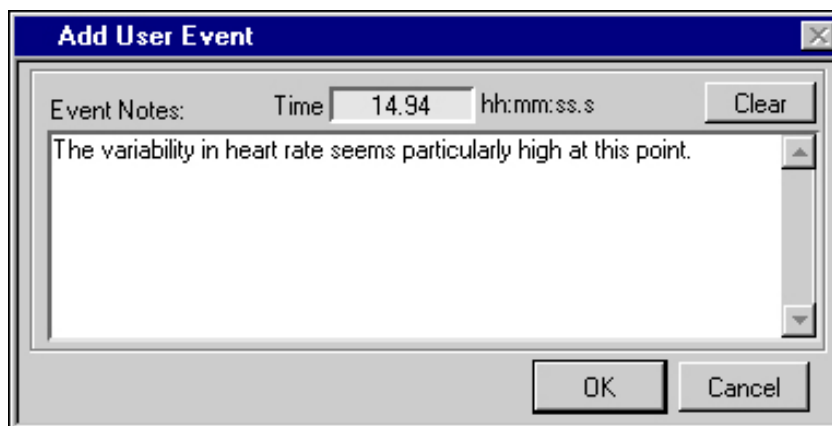

Figure 4-13. Add User Event Dialog Box
- **Event+**—Allows you to add a new, user-defined file event to the file. When you click on this button, the Add User Event dialog box, shown in Figure 4-13, appears.